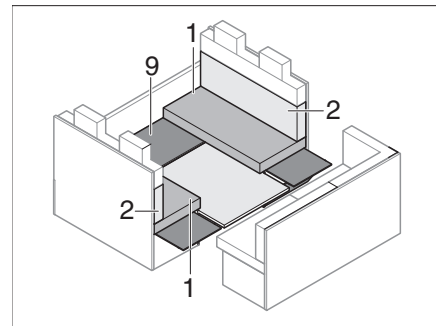

Fig. 193 During conversion
- Lay the base (Fig. 193,9) back on.